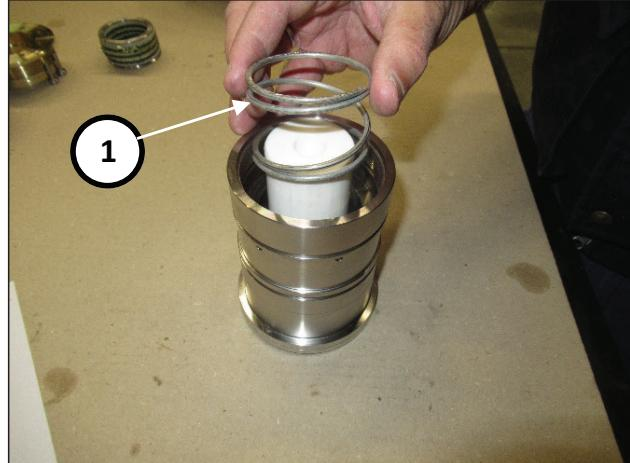

Fig. 176
Insert the spring into the liner (pos. ①, Fig. 176)